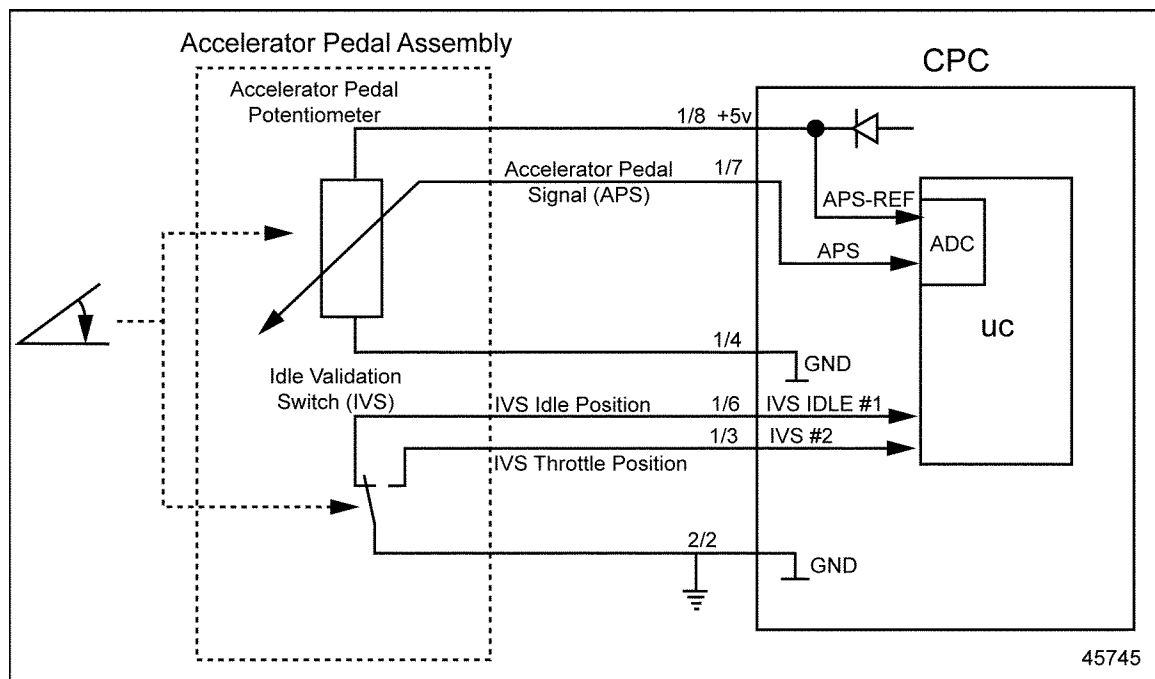

Figure 6-3 Accelerator Pedal Assembly Installation
1. Disconnect the Accelerator Pedal (AP) connector.
- [a] If the resistance is less than 5 Ω , repair the short between wires 8 and 4 of the CPC #1 connector. See Figure 6-3. Refer to section 6.3.1.1.